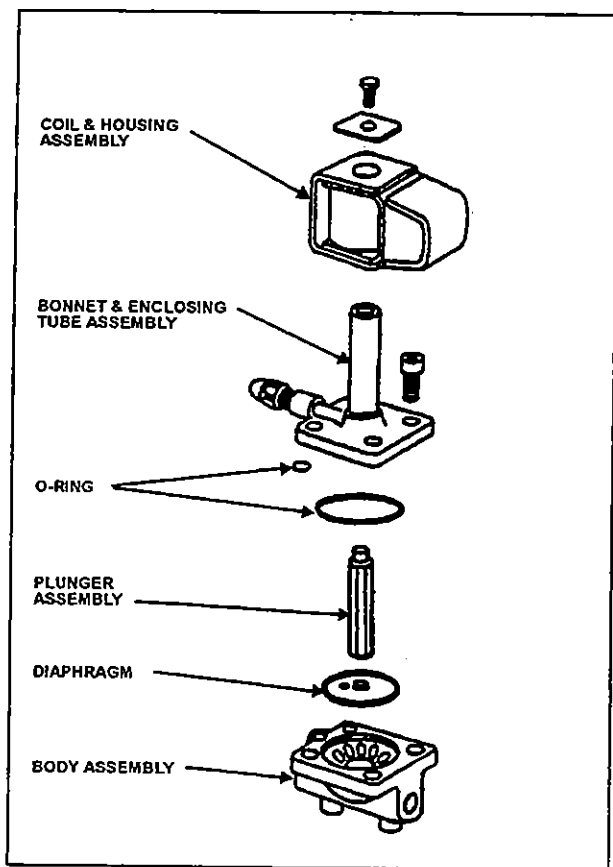

Figure 25: Refrigerant Solenoid Valve 22044
3. Remove the four socket head screws which hold the body and bonnet together (Fig. 25).